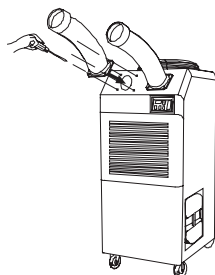

Figure 17 – Cool Air Outlet attachment
2. Place the cool air outlet hose(s) on the front top of the unit as shown in Figure 17.